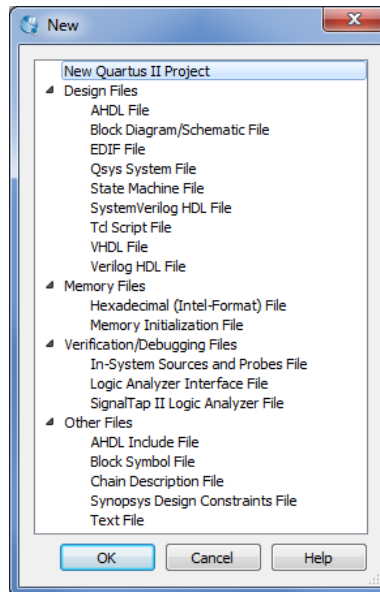

Figure 3. Need to prepare a new file.
1. Open the SignalTap II window by selecting **File > New**, which gives the window shown in Figure 3. Choose **SignalTap II Logic Analyzer File** and click **OK**.